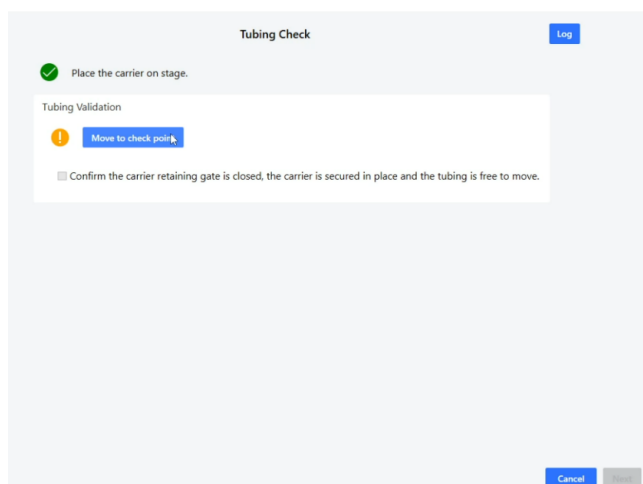

Figure 6.13. Dialog window, Tubing and Carrier Tray Check intermediate step.
6. The Tubing Check dialog box is complete. (See Figure 6.13.)